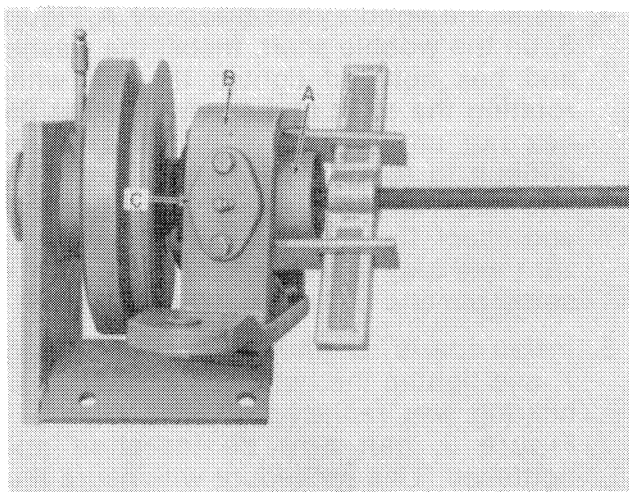

FIGURE 3
1. Remove the cap, cotter pin, and hex nut from the wobble hub, A, Figure 3. Install a bearing puller and remove the complete wobble hub assembly from the wobble shaft as a unit.
**NOTE:** If the bearing puller being used will not fit inside yoke, B, Figure 3, the puller can be placed on trunnion bearing caps at C, after grease fittings are removed.
4. Install the wobble yoke assembly, A, Figure 3, on the wobble shaft. Install the washer and hex nut and tighten the nut while rotating the shaft and sheave. Adjust the hex nut until the shaft and sheave are difficult to rotate. Then back the nut off one flat. Tap the sheave with a hammer and check for end play. There should be zero end play in the assembly before the cotter pin and cap are installed.